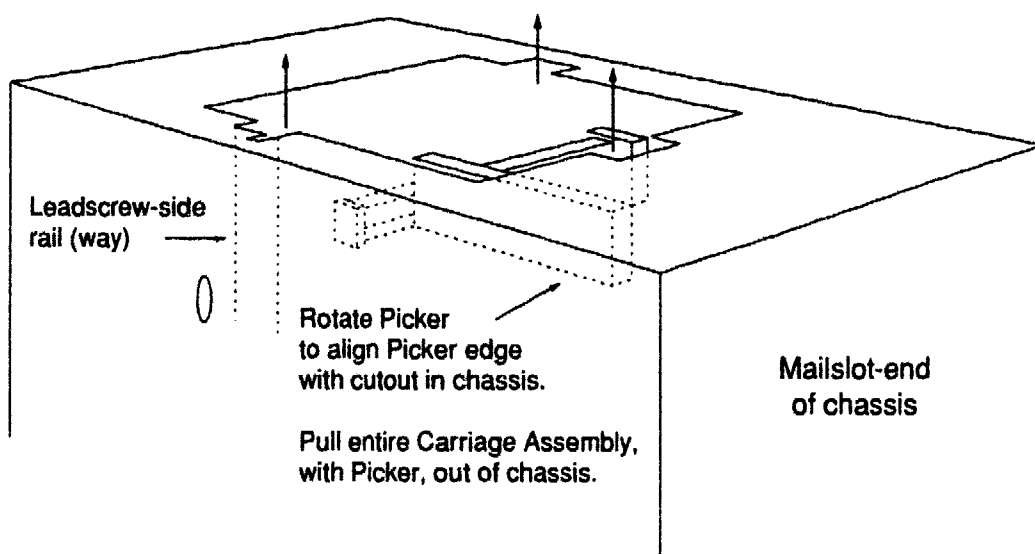

Figure 8-26. Removing the Carriage Assembly and Picker as a Unit
- c. Release the Picker for rotation by pushing on the release lever. Rotate the Picker to a position parallel to the Carriage rails as shown in Figure 8-26.
Refer to Figure 8-26.